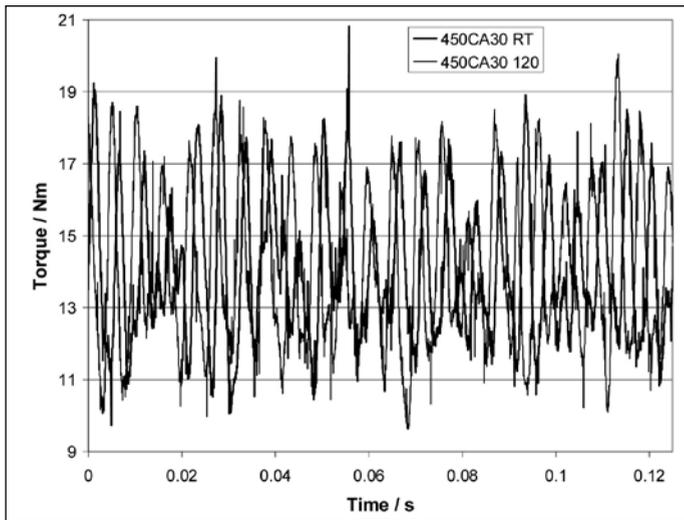

Figure 9—Torque data for Victrex 450CA30/steel gear combination.
**Victrex 450CA30/steel combination.** The torque and transmission error data are shown (Figs. 9–10).